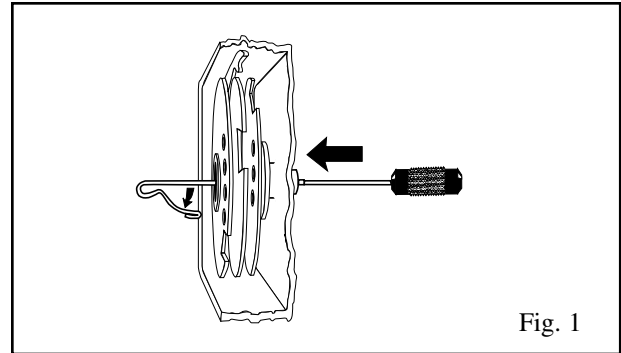
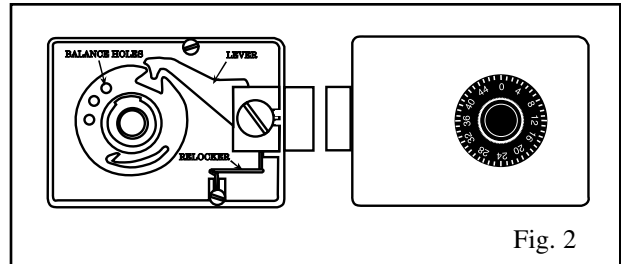
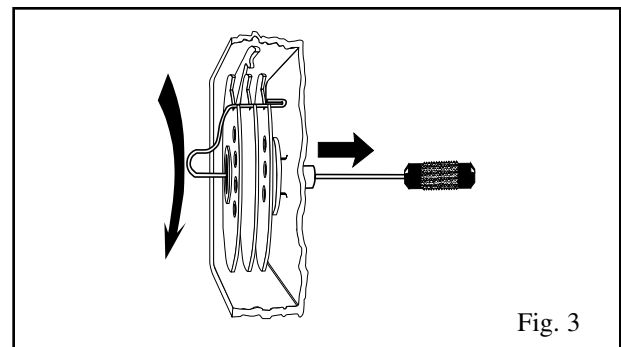

Fig. 1
Fig. 2
Fig. 3
1. Insert NST-D through spindle hole. See Fig. 1. Entry is faster and safer when the end is held by hand toward the main body. After sufficiently entered, the tip of the tool will return to the form that it had originally. Next gently pull the handle outward which moves the tip toward the first wheel. By tapping the wheel with the tip of the tool, while at the same time rotating slowly, you are beginning to search for the gate on the wheel. Keep in mind that there are a couple of obstacles in your way- the change key hole and the balance holes. See Fig. 2. Either of these may appear to be the elusive gate; however, they can be avoided by using the depth gauge. The depth gauge is located on the main body and slides all of the way to the lock face. Before using the gauge to find the gate, make sure that the tip of the tool is resting on the flat surface of the first wheel. When you begin to tap against the first wheel watch the depth gauge. If it advances less than one position, that means you've found one of the holes. Push it back out of the hole and continue on. The gate will read at one full position. Since there is only about 90 percent of each wheel exposed at any given time, the gate may not be accessible for the tool. To overcome this situation use one of the holes to your best advantage. Deliberately turn the wheel somewhere between 90 and 180 degrees. Repeat the process. When the wheels are aligned, turn counterclockwise until the tool stops. See Fig. 3. Push the tool out and the lever will drop into the gates. The mark on the handle indicates location of the end of the tool.